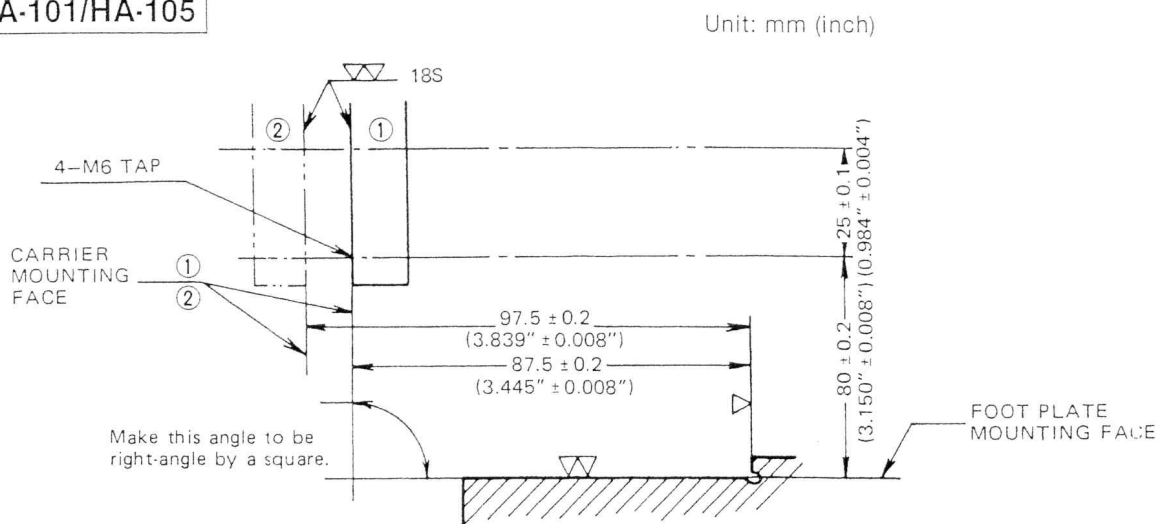

Fig. 4-4. Dimensions of the carrier mounting seat
As shown in Fig. 4-4, if the right measurement of 87.5 mm (3.445") can be taken in case of ① or 97.5 mm (3.839") in case of ②, it is not necessary to use the adjustment block.